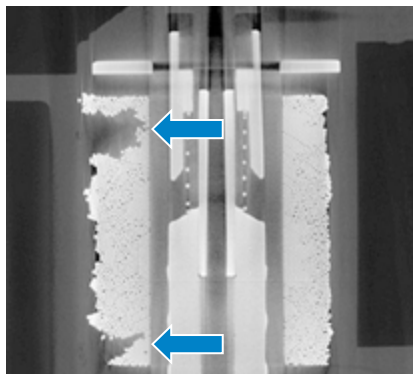

Fig. 7
- "The computer tomography section reveals the unclean winding" (Fig. 7).